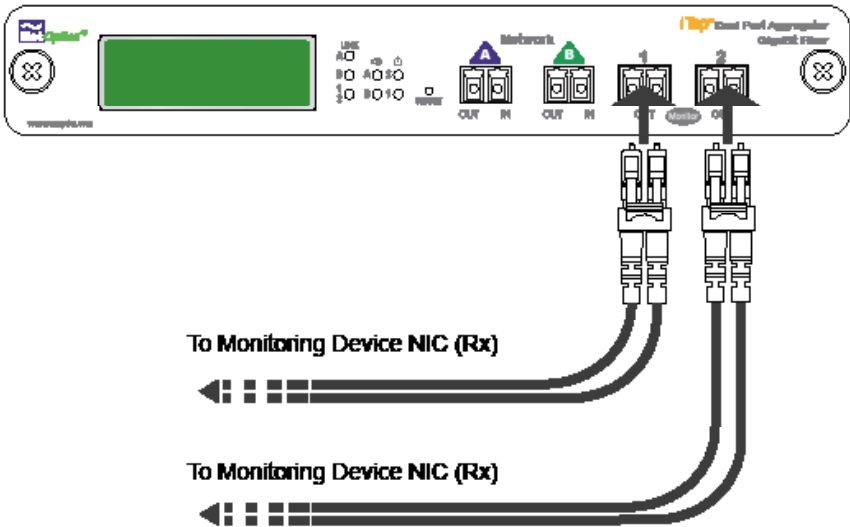

Figure 10: IPA-SX5-SFP Monitor Connections
1. Connect a CAT5 cable to the Management Port as shown in Figure 10.